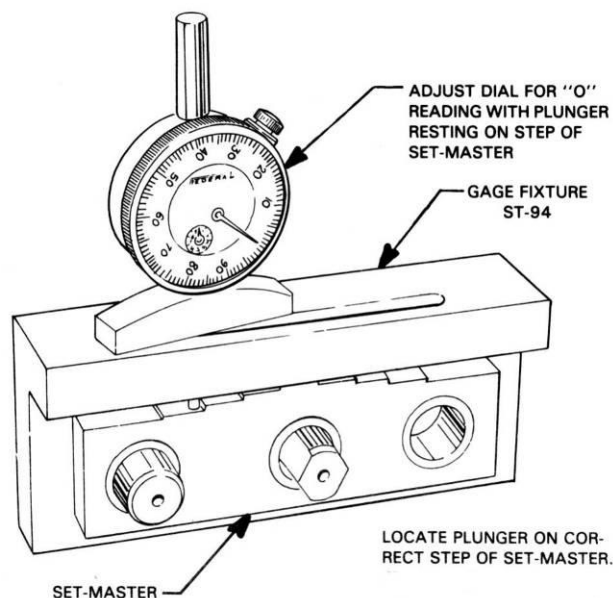

Figure 4
- a. Install the relieved locating pin ST-94-2 in the center hole on the set-master with the locating diameters in the vertical position as shown in Figure 4.
- a. Put the set-master over the locating pins of the counterweight bushing location gage ST-94 (Figure 4).